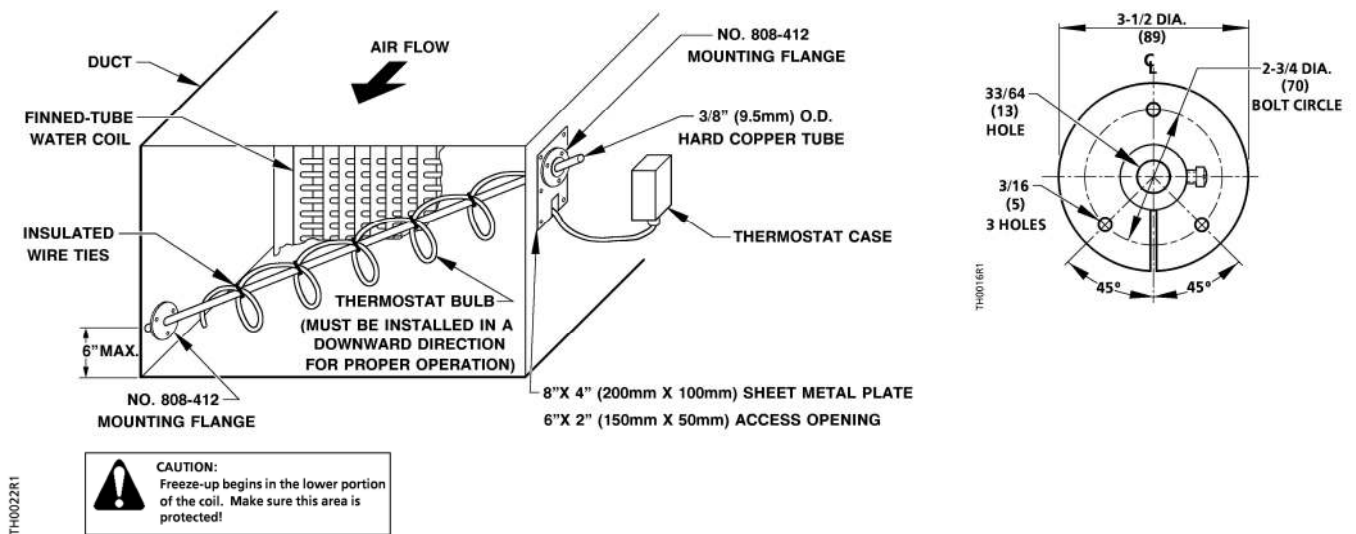

Figure 2. Bulb Mounting for Limited Access Ducts with 808-412 Mounting Flange.
| Dimensions | See Figures 2 and 5 |
Limited Access Ducts (Figure 2)
4. Cut a length of copper tubing to fit diagonally across the duct. Stretch out the bulb and wrap it around the tubing. See Figure 2.